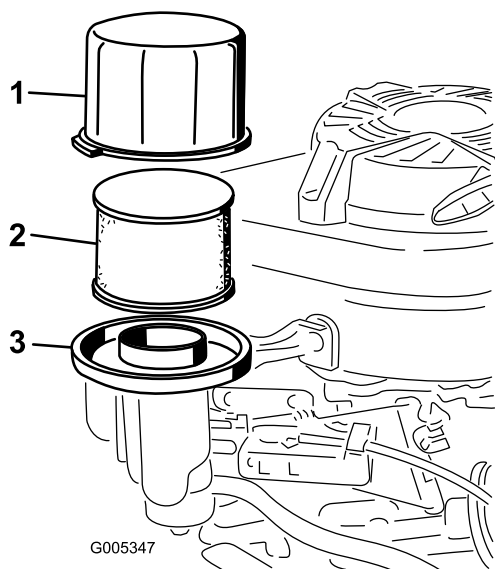

Figure 21
3. Remove the cover and clean it thoroughly (Figure 21).
4. Remove the foam pre-filter and the paper-air filter from the air-filter base (Figure 21).